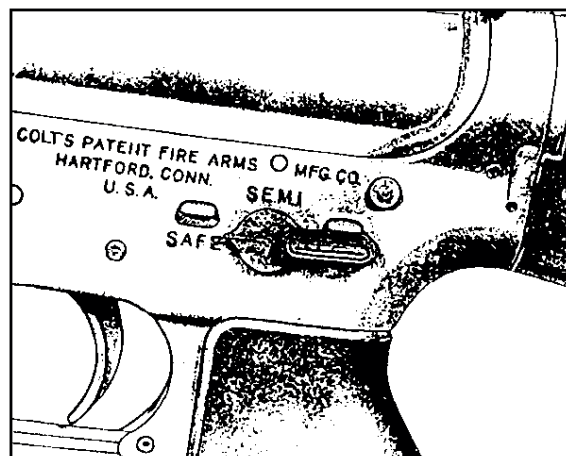

Figure 3-27.—Selector lever pointing to SAFE.
1. Attempt to point the selector lever toward SAFE, the position shown in figure 3-27. If the weapon is not cocked, the selector lever cannot be pointed toward SAFE. If this is the case, do not cock the weapon at this time; instead, go on to the next step in clearing.